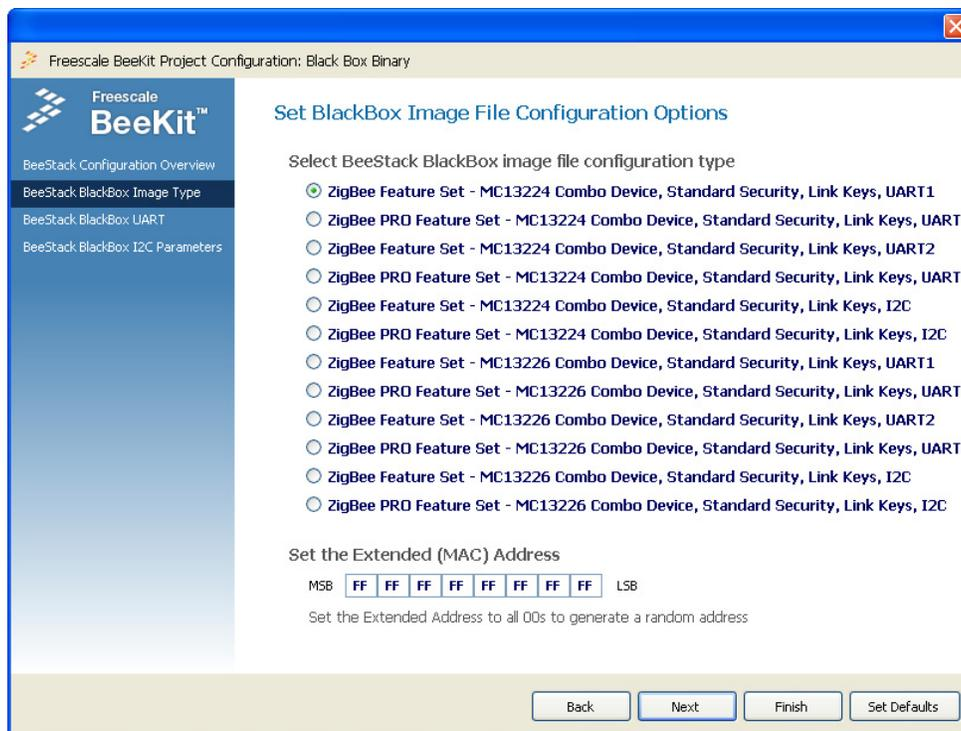

Figure 8-3. BeeStack Black Box image type window
8. Click on the Next button. The BeeStack BlackBox Image Type window appears as show in Figure 8-3.